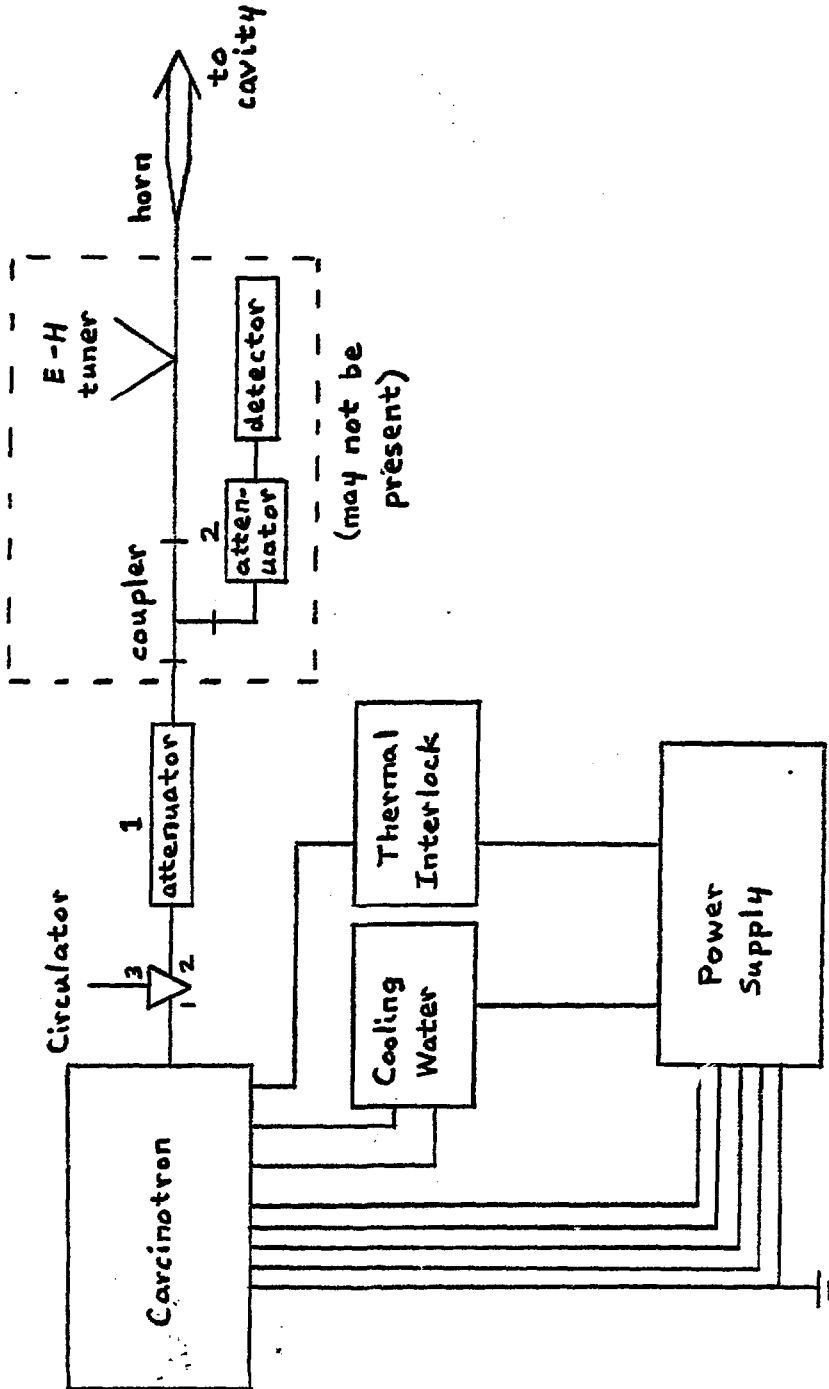

FIGURE 1
The block diagram for the microwave system is shown in Fig. 1. The COE40B carcinotron is the rf power source. It is a backward wave oscillator which produces about 10 watts of microwave power between 68 and 72 GHz. It requires four different dc power supply voltages for operation. They are: (1) the heater; (2) Anode II, referred to as "line voltage"; (3) Anode I; and (4) grid (focus) power supplies. The body of the tube, i.e., outside frame and output wave guide, are at ground. All other voltages are floating at the Anode II or "line voltage" which could be as large as 6000 V negative.
Figure 1 shows the block diagram for the microwave system. In order to understand how it works one should consider that a beam of microwaves acts exactly like a beam of light. The inner walls of the waveguide act as light pipes for the microwaves. If the waveguide is not perfectly matched, there will be a reflected beam of microwaves; therefore, in the waveguide there are two waves except for a perfect match. One is the forward wave, and the other is the reflected wave.
- a. Directional couplers have the property that they sample a small amount of the microwave power going down the guide only in one direction. In the circuit of Fig. 1, the directional coupler samples in the reflected or backward direction.